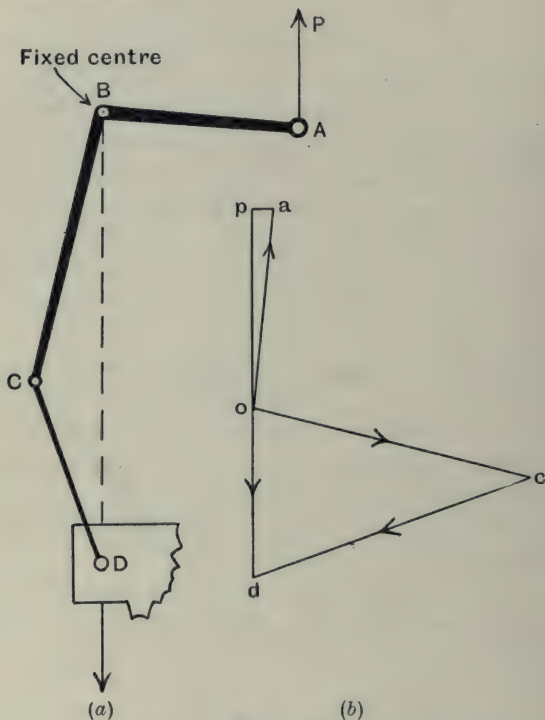

Fig. 116.
**Example (3).** *Fig. 116 (a) on p. 192 shews diagrammatically the mechanism of a drawing press. ABC is a bell-crank lever pivoted at B. The end C is connected by the link CD to the piece D, which is constrained to move in direction BD. By drawing velocity triangles, find the ratio of the velocity of A to the velocity of D.*
In fig. 116 (b), draw *oa* perpendicular to AB, and equal to AB, to represent the velocity of A. Draw *oc* perpendicular to BC, and equal to BC, to represent the velocity of C.